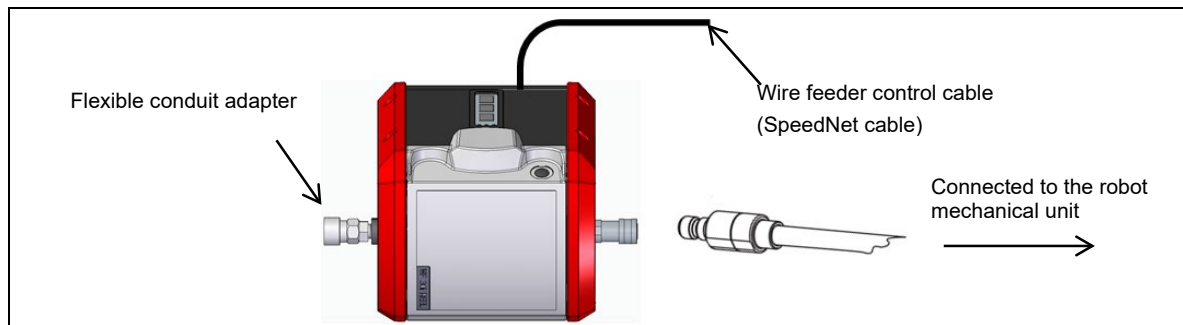

Fig. 7.8 (a) Replacing the wire feeder
- 1 Remove the flexible conduit of the wire feeder in Fig. 7.8 (a), then pull out the wire of the wire feeder inside.